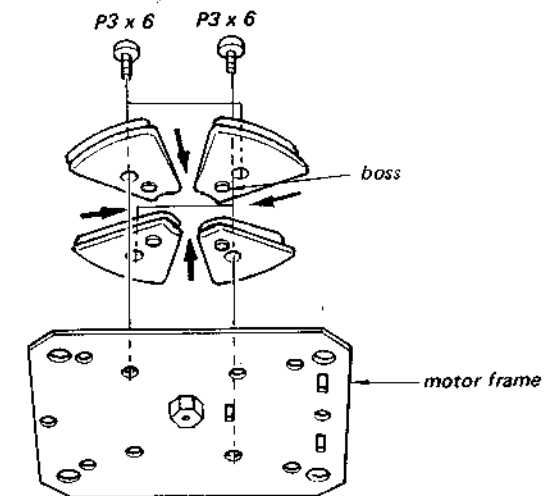

Fig. 2-7
- a) Mount the coils on the motor frame so that the boss of the coil is placed in the hole of the frame as illustrated in Fig. 2-7.